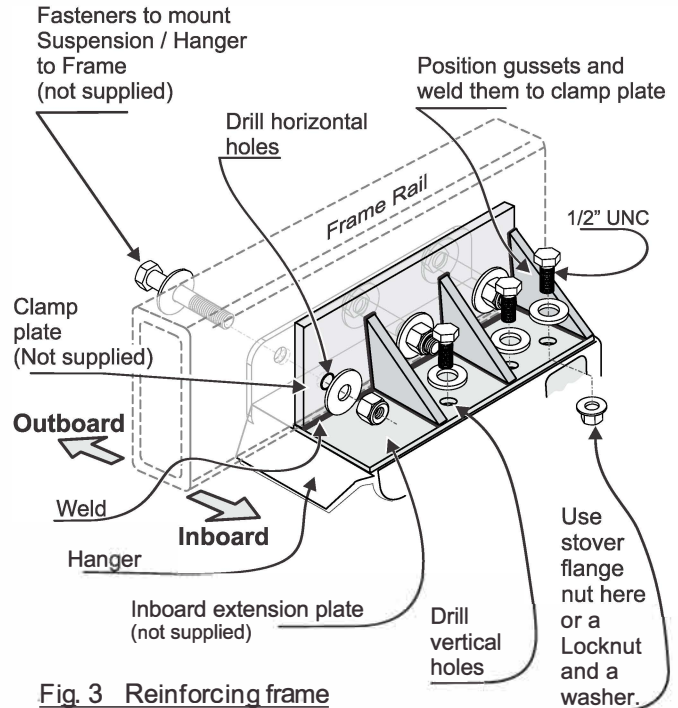

Fig. 3 Reinforcing frame
5. Bolt hanger side plate: ⁽³⁾⁽⁴⁾ (fig. 3): Use holes in the hanger side plate as a template (3 holes). Drill horizontal holes to the side of frame at each side of trailer. Use 1/2" UNC Gr 8 bolts, lock-nuts, and washers to mount hangers to frame (fasteners are not included). Torque mounting bolts to 90-95 ft-lbs (122-129 N.m).
Example: if hanger of suspension is to be bolted to a C-channel crossmember, with 3/8" flange then use: Hex Head bolt, 1/2" UNC x 1-1/4" long Grade 8 ($3/8" + 7/8" = 1-1/4"$). If trailer does not have crossmembers (but frame main beam itself is sufficiently strong to overcome torsion of frame) then fabricate an inboard extension and attach it to the frame. Reinforce it by gusset as necessary (fig. 3) to make it rigid.
(3) Welding the hanger is optional (instead of bolting it), but be aware that all paint around welding edges need to be ground off prior to welding. Protect Aeon® rubber spring from extreme heat generated during welding.
(4) When bolting the frame be aware that hollow (tubular) sections of frame may not be sufficiently strong to withstand compression of bolted joints and therefore may collapse unless they are reinforced; consider fabricating a bracket similar to the one shown in fig 3 which has a clamp plate to go between the nut/head of bolt and tube. Such bracket must be rigid enough to allow you to apply a full torque to bolts.